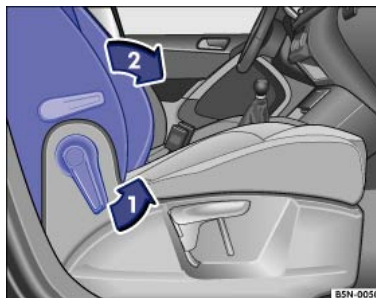

Fig. 83 Front passenger seat: folding backrest forwards.
- Release the front passenger seat backrest in the direction of the arrow ⇒ *Fig. 83①* .
- Fold the front passenger seat backrest forwards in the direction of the arrow ⇒ *Fig. 83②* until it is horizontal.
- To fold back, release the front passenger seat backrest ⇒ *Fig. 83①* .